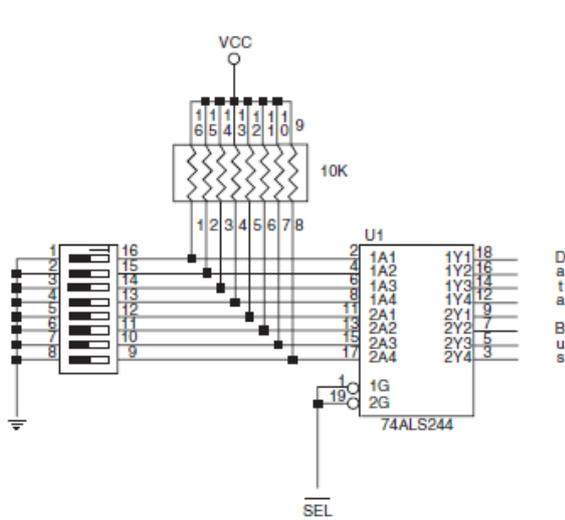

Figure 11-3: The basic input interface illustrating the connection of 8 switches.
- Three-state buffers are used to construct the 8-bit input port (Figure 11-3).
- A 0 placed on the output control-inputs(1G & 2G) of the buffer causes the data-input connections(A) to be connected to the data-output(Y) connections.